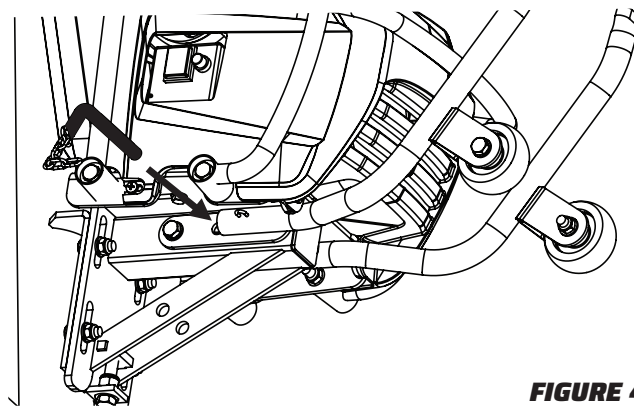

FIGURE 4
- Ensure the locking pin is secure before using rear handle to move mixer. (Figure 4)